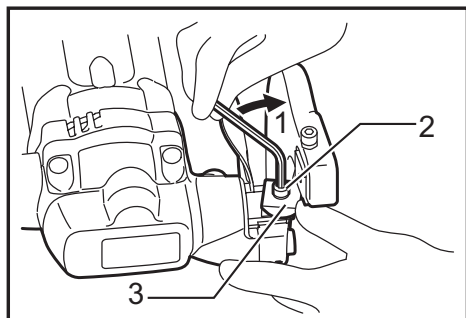

Fig.4
► **Fig.4:** 1. Tighten 2. Upper blade securing bolt 3. Upper blade